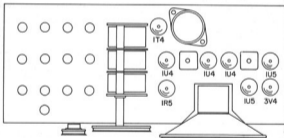

Fig. 4. Top view, location of tubes.
**TUBE REPLACEMENT** - The tube types and their relative position in the receiver are shown in Fig. 4. When inserting miniature tubes, lineup the seven small pins before pushing straight down to seat the base of the tube on the socket. Handle all tubes with care as they are considered fragile and do not tolerate much mechanical abuse.